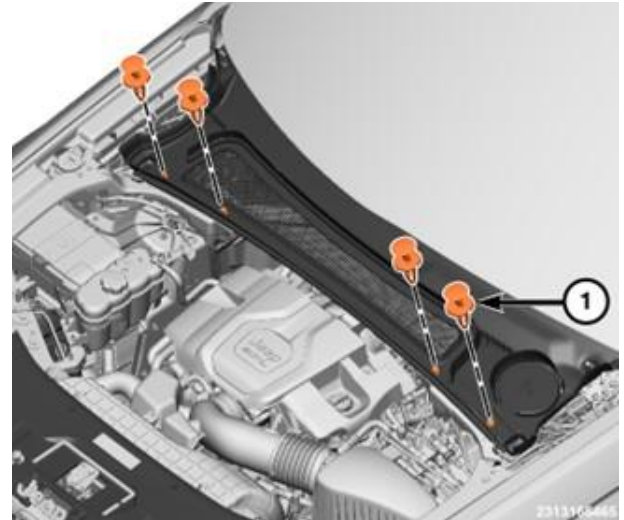

Figure 29 – Cowl Panel
- g) Remove the push-pin fasteners (1) (Figure 29).
- f. Cowl Panel and fasteners (1) (Figure 29).